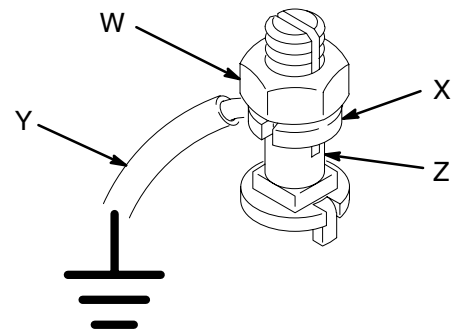

Fig. 1
1. *Pump:* use a ground wire and clamp. See Fig. 1. Loosen the grounding lug locknut (W) and washer (X). Insert one end of a 1.5 mm² (12 ga) minimum ground wire (Y) into the slot in lug (Z) and tighten the locknut securely. Connect the other end of the wire to a true earth ground. Order a ground wire and clamp Part No. 237569.